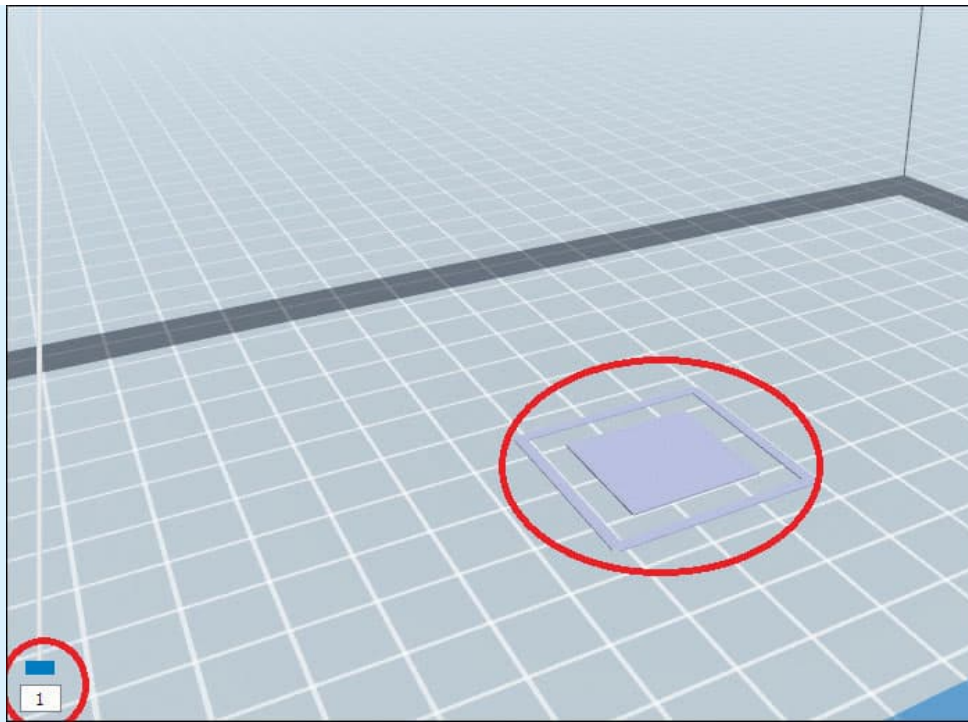

FIG. 2: *Slice 1 on the printer bed.*
- After the printer software has processed/sliced your design file, check to see whether the first layer of each element is sitting on the bed, or on another element (fig. 2).